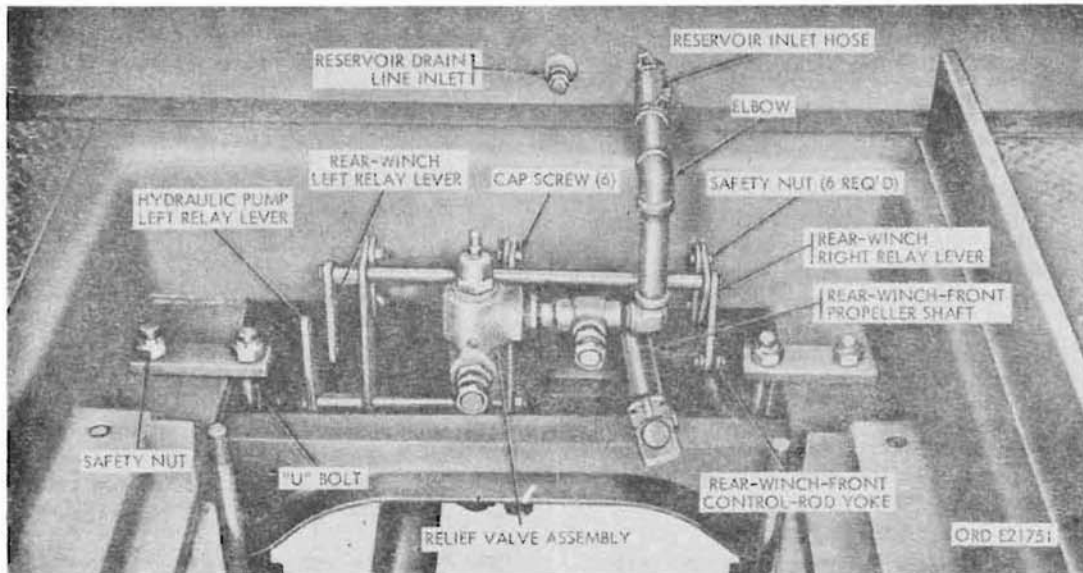
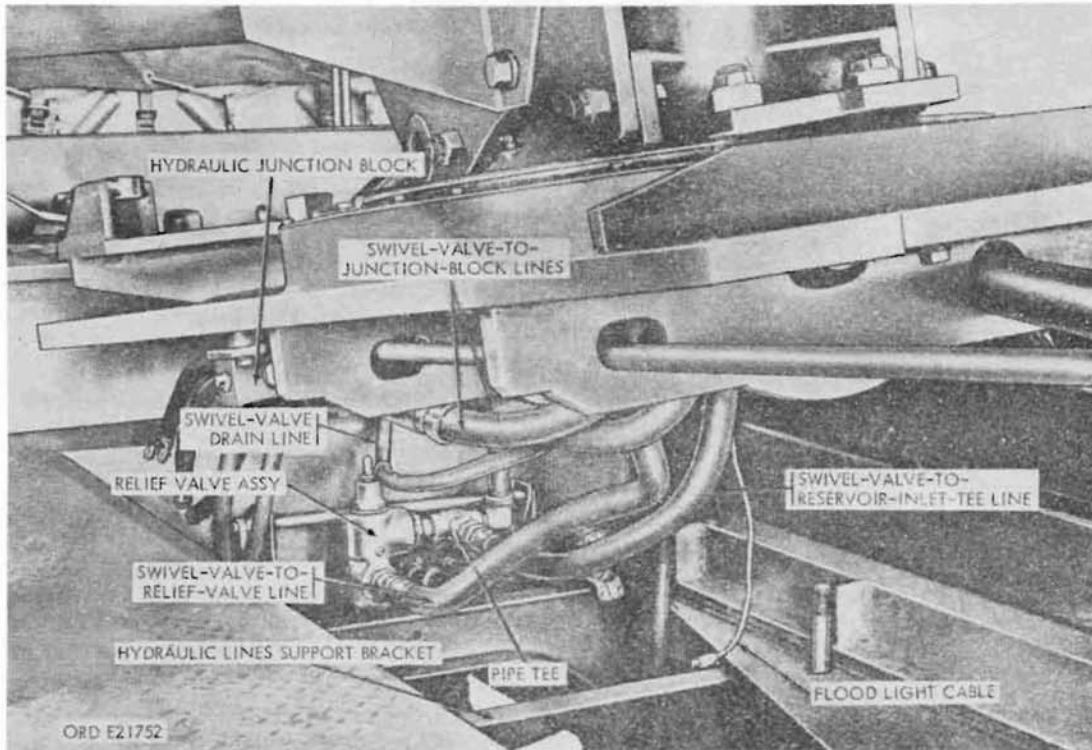

Figure 316. Rear view of forward end of wrecker body M60
Figure 317. Swivel valve hose connections
- (1) Loosen hose clamp securing reservoir inlet hose (fig. 316) to inlet pipe at rear of reservoir, and remove hose from pipe. Turn elbow 45° to allow clearance for removal between relay lever assemblies.
- (2) Remove cotter pin and yoke pin securing rear-winch-front-control-rod yoke (fig. 316) to rear-winch right relay lever, and remove yoke from lever.
- (3) Disconnect swivel-valve-to-relief-valve line (fig. 317) from relief valve outlet, and disconnect swivel-valve-to-reservoir-inlet-tee line from pipe tee at relief valve.
- (4) Remove clamp securing swivel valve drain line (fig. 317) to top of relief valve and remove line from valve.
- (13) Connect rear-winch front propeller shaft (fig. 316) to winch-output shaft yoke (fig. 319) at rear of power-divider.
- (17) Position swivel-valve-drain line (fig. 317) at top of relief valve and secure with clamp.
- (18) Connect swivel-valve-to-reservoir-inlet-tee line to pipe tee at relief valve.
- (19) Position rear-winch-front-control-rod yoke (fig. 316) on rear-winch right relay lever, and secure with yoke pin cotter pin.
- (20) Turn elbow (fig. 316) to align reservoir inlet hose with inlet sleeve on front of reservoir, install hose on sleeve, and tighten hose clamp securely.